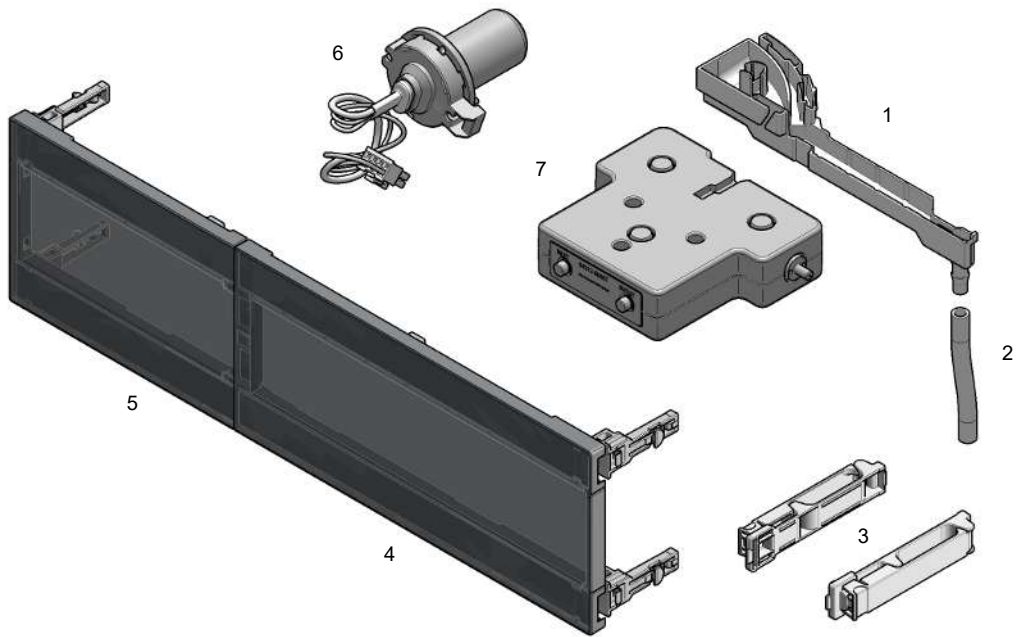

Figure 47: Maintenance Parts
5063-6527	Tubing, Silicon Rubber, 1.2 m, ID/OD 6 mm/9 mm see item 4 in Figure 47 on page 200
5043-1013	Tubing Clip see item 7 in Figure 47 on page 200